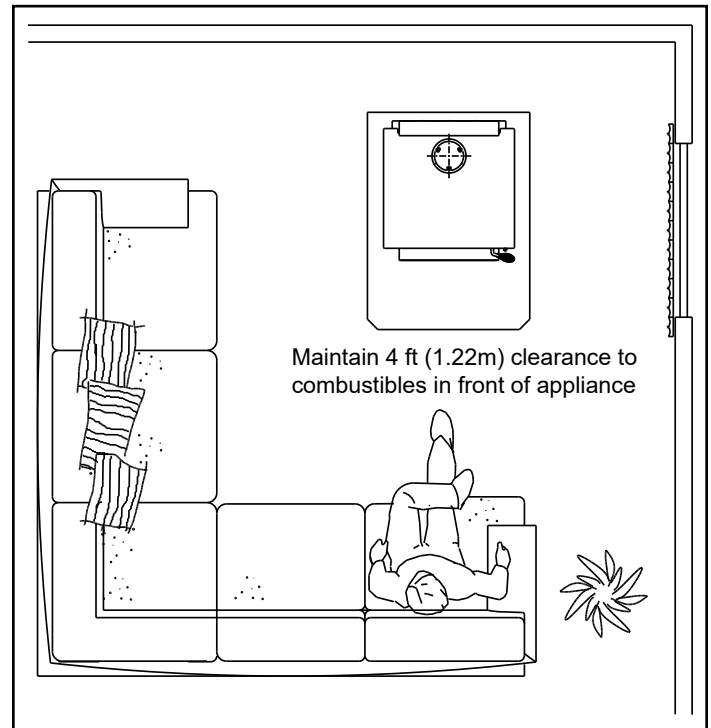

Figure 13.1
**NOTE:** Do NOT place combustible objects within 4 ft (1.2m) of the front of appliance (**Figure 13.1**).